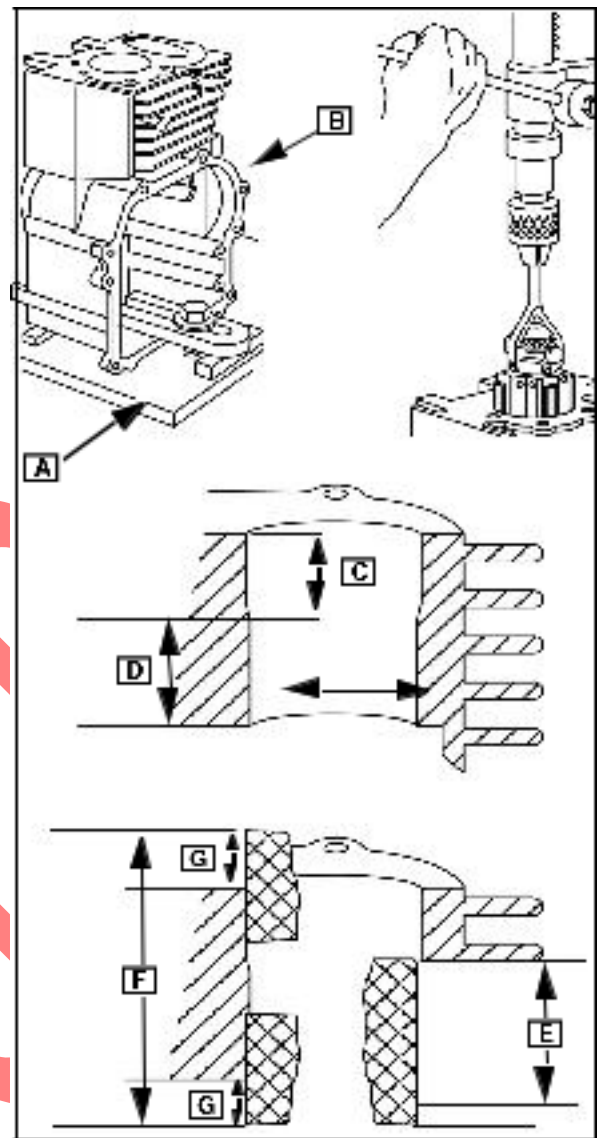

Fig. 47
Oil the surface of the drill press table liberally. Set (do not anchor) the honing fixture/plate (A) and cylinder on drill press table. ([B] Fig. 47).
travel area, (D) use this area to guide hone to straighten cylinder bore, Fig. 47.
Start the drill and, as the hone spins, move it up and down limiting the travel to the bottom of the cylinder ([E] Fig. 47).
As the bottom of the cylinder increases in diameter, gradually increase the length of the strokes until hone travels full length of bore and extends past the cylinder bore ends ([F] Fig. 47). Do not extend hone more than 3/4 in. to 1 in. (19.1 mm to 25.4 mm) at either end of cylinder bore ([G] Fig. 47).